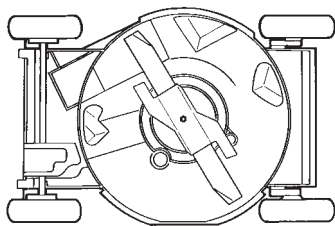

Figure 13
4. Tip the lawn mower on its **left** side (air filter up) (Fig. 13).